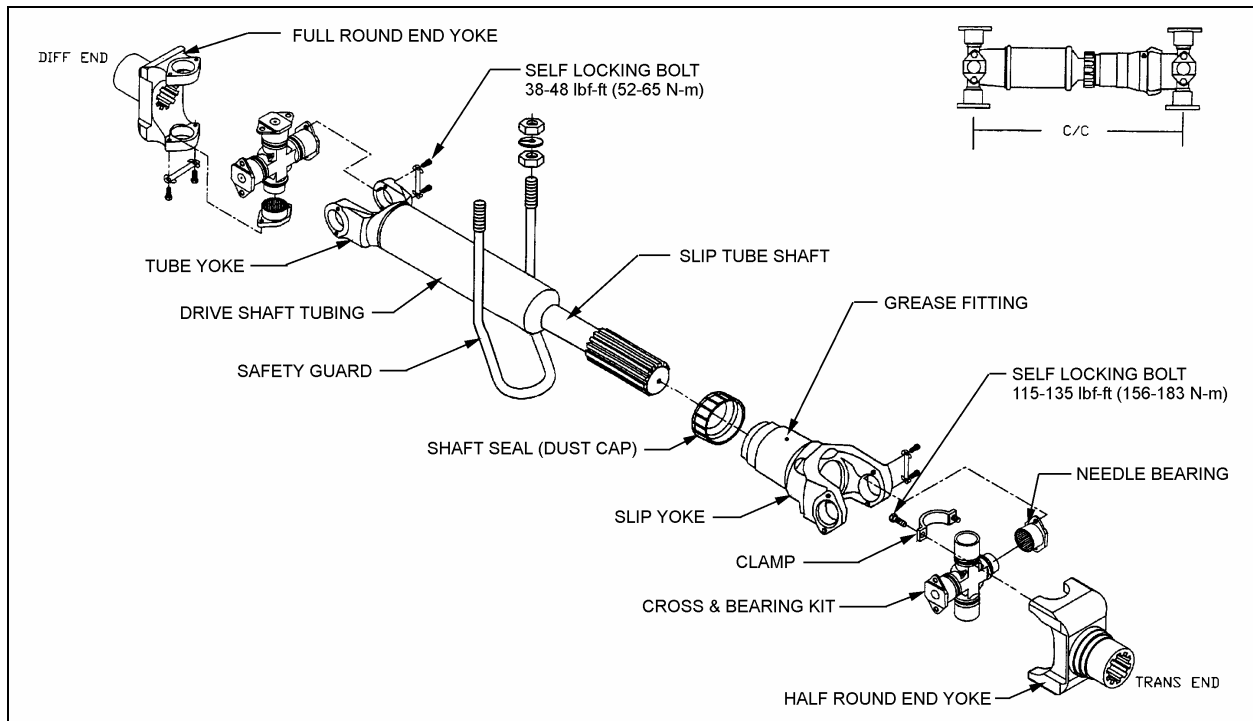

FIGURE 1: PROPELLER SHAFT ASSEMBLY
- Screw bolts to the specified torque (Fig. 1).